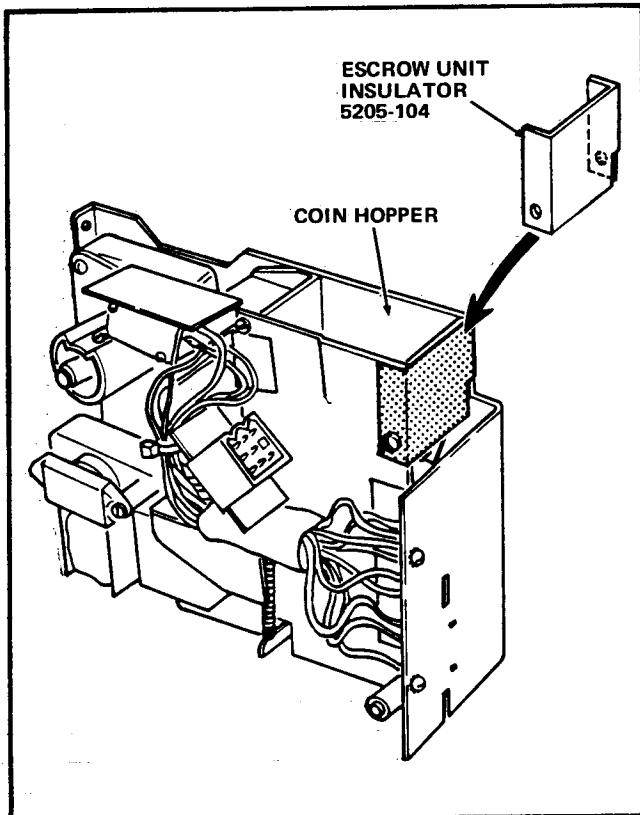

FIGURE 4
2. Bend the Escrow Unit Insulator along the creases to the shape shown in the dashed part of Figure 4.
3. Install the Escrow Unit Insulator using the screws removed in step G-1, as shown in Figure 4.